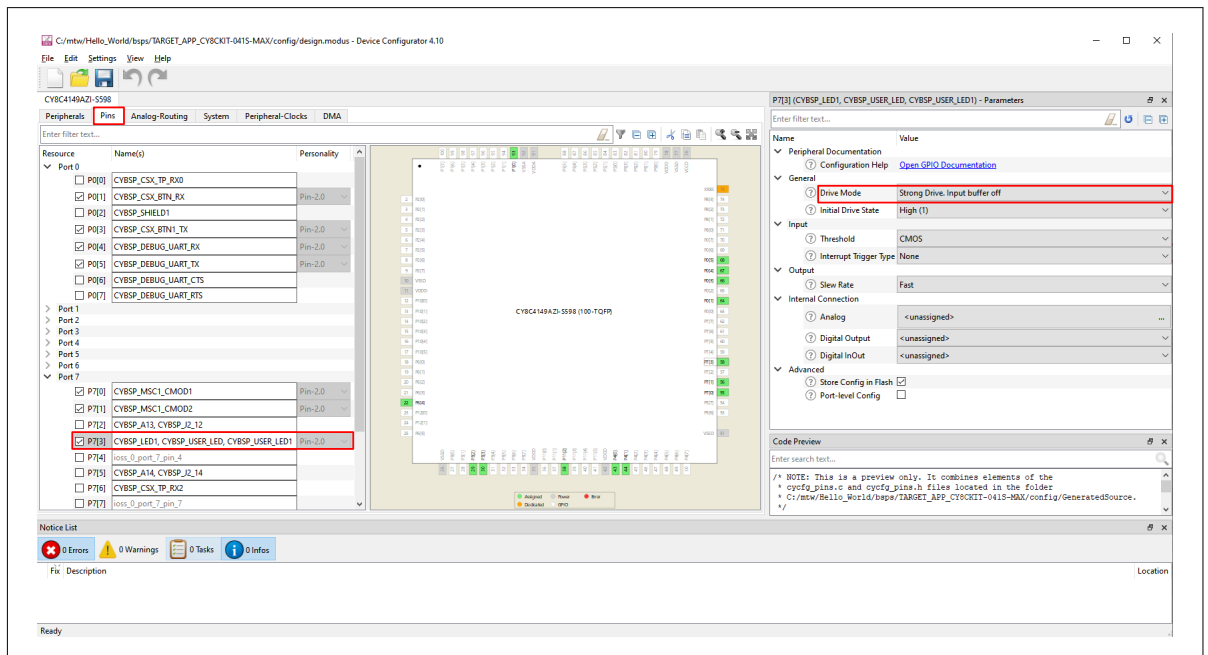

Figure 23 Configuring GPIO
- Go to the **Pins** tab in **Resource Categories** pane to configure the GPIO connected to the user LED on the kit. See Pin mapping table across PSoC 4 kits if you are using a different PSoC™ 4 kit. Configure the GPIO as shown in 23 Figure 23.